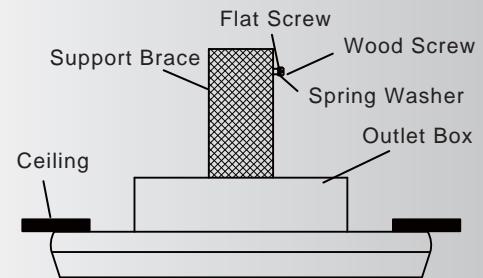

Fig. 10-1
Step 1. Attach the provided wood screw and washers to the ceiling joist next to the mounting bracket but do not tighten. See Figure 10-1